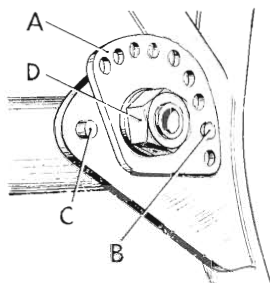

FIGURE 21.
Chain adjusters are situated at the swinging arm pivot (FIG. 21), and comprise quadrants (A) — one on each side — pierced with holes positioned at different radii from the pivot. Slacken the securing nut (D), lift the quadrants off their retaining pegs (B) and draw the swinging arm rearwards, rotating the quadrants until a new hole is aligned with the peg in the frame. Corresponding holes must be selected for both sides of the machine. Now tighten the securing nut and the damper unit pivots. Readjust the brake.